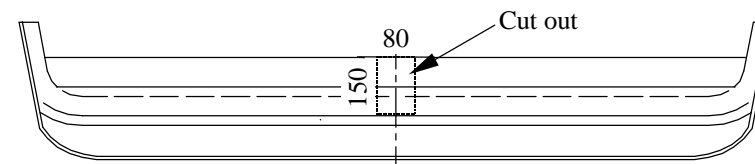

Fig. 2
7. So prepared elements of the towbar fix with jibs (pos. 8) in marked points (pos. C and D).
8. Install the bumper after cut out of its fragment $80 \times 150\text{mm}$, as showed on the fig. 2.